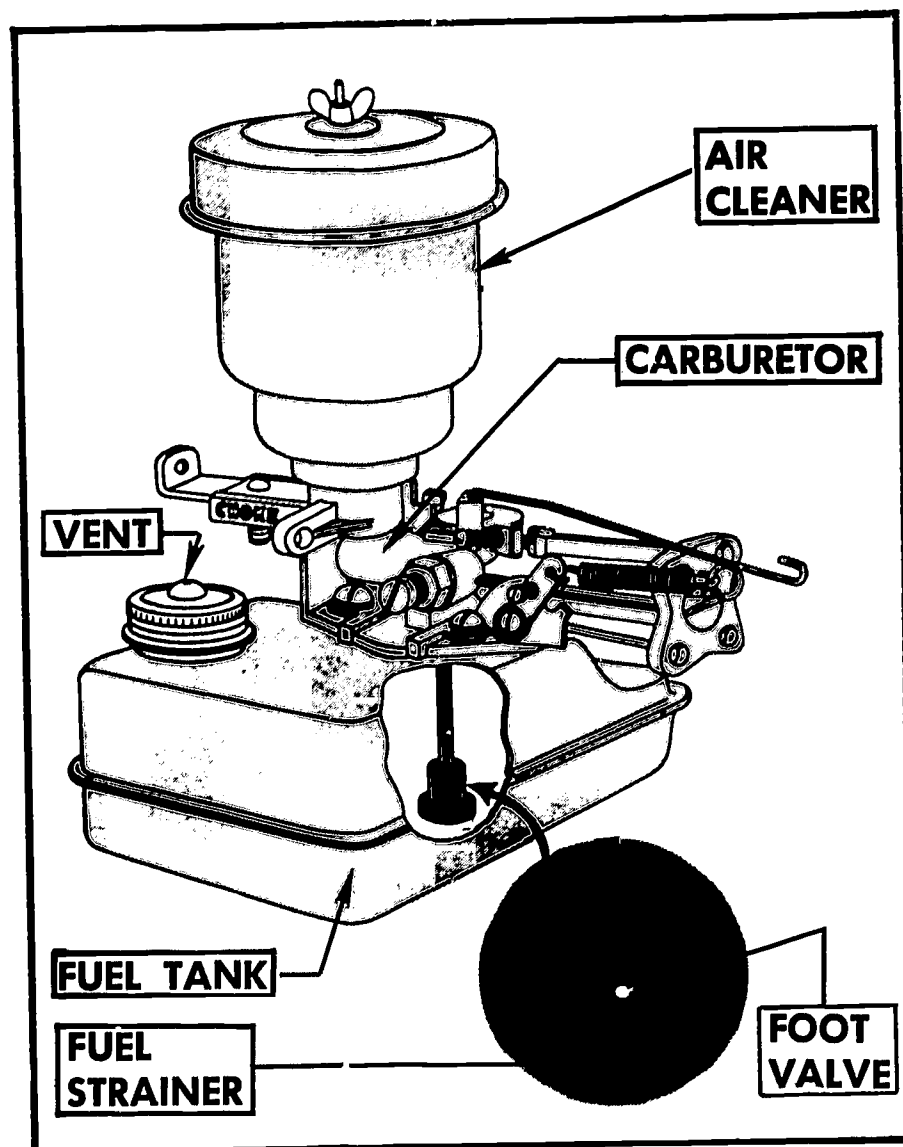

FIGURE 130. A fuel tank serving as a carburetor fuel reservoir.
- A *fuel reservoir* — some are separately mounted, while others are connected directly to the carburetor (Figure 130).
If your carburetor is **mounted directly on the fuel tank**, as the one in Figure 130, you will have to remove the carburetor. See "Removing the Carburetor," page 86.